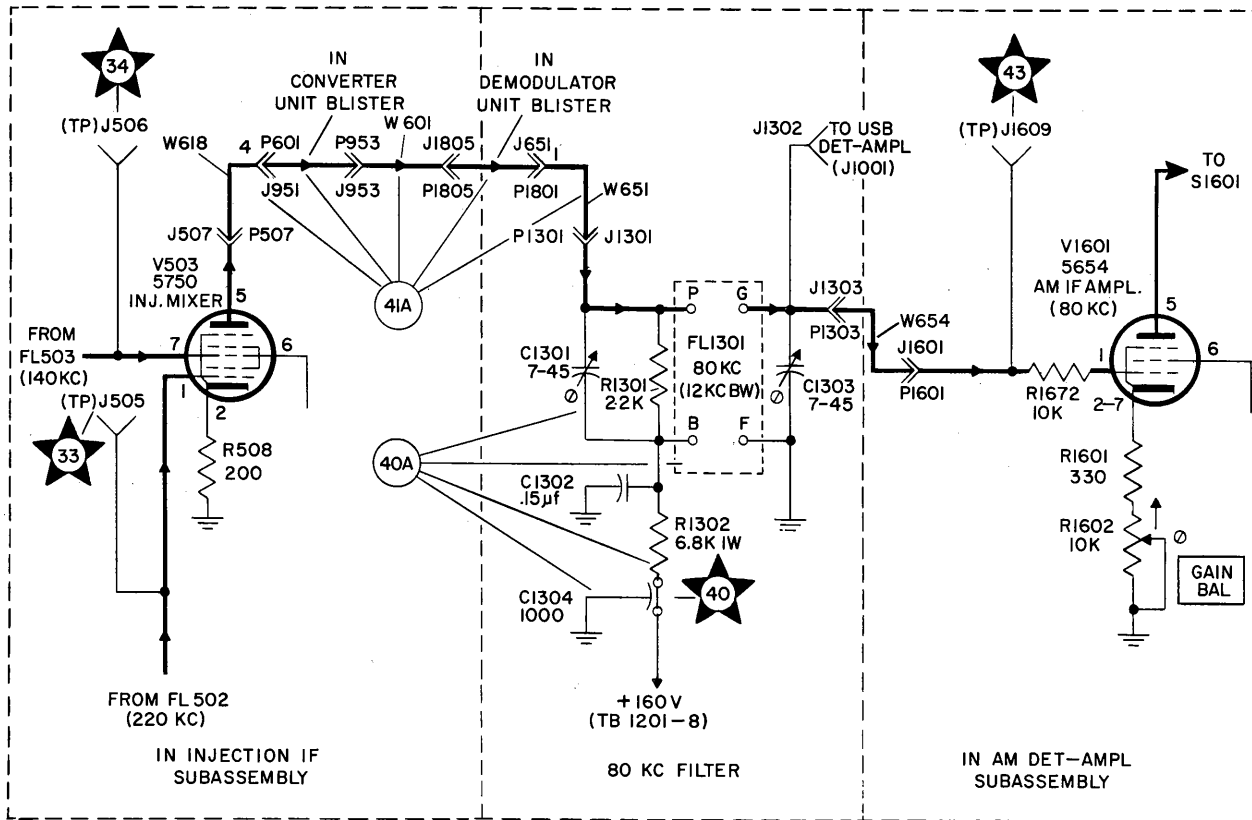
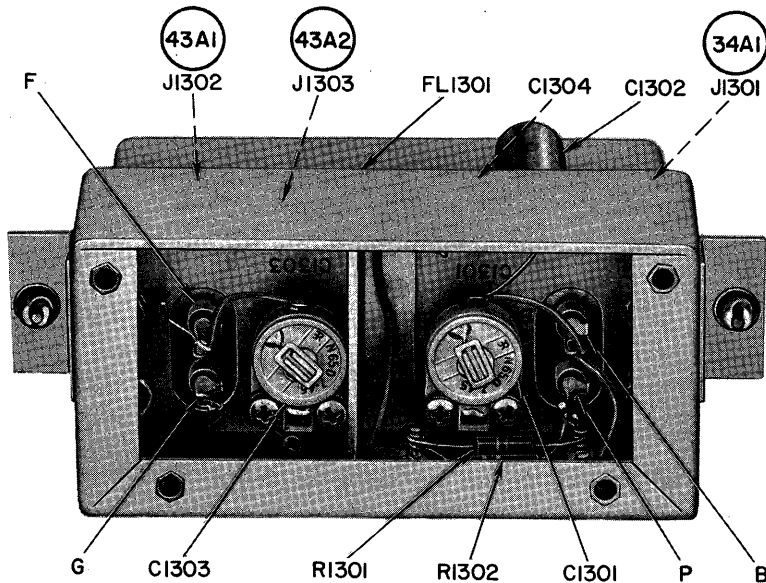

Figure 5-24. 80 Kc Filter, Functional Schematic Diagram
Figure 5-25. 80 Kc Filter, Location of Parts and Test Points
*a. DIAGRAMS.*— Figure 5-24 is a functional schematic diagram of the 80 kc filter, and figure 5-25 shows the location of parts and test points. Refer also to figure